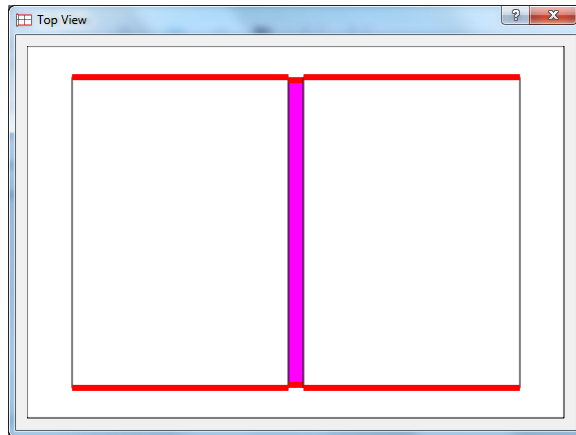

FIGURE 10. Top view (waveguide width) for Rectangular Block Window.
23. Select *Draw Geometry* and confirm that the geometry is as shown in Figure 10. There are two geometry plots shown, one for the top (waveguide width, dimension A in the table) and the side view which is the waveguide height.